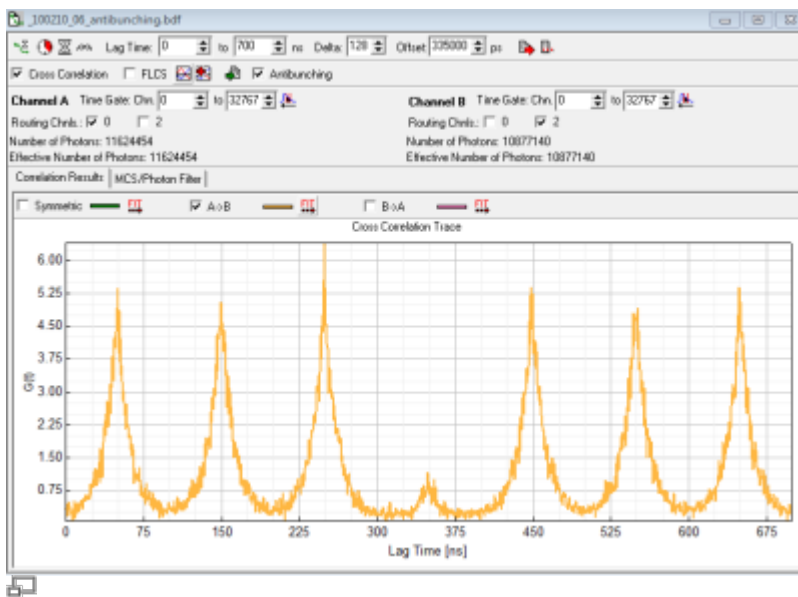

Figure 1: Correlation of Antibunching Measurement. Sample Diamond\\_NV\\_centers. Laser rep. rate 10 MHz for details
Figure 2: Correlation of Antibunching Measurement. Sample Diamond NV centers. Laser repetition rate 40 MHz. Note the peak near the expected dip at lag-time=0 due to SPAD afterglow. Compared with figure 1 the expected dip has not been shifted to the center of the x-axis and the emission bandpasses have not been placed directly in front of the detectors but in the emission filter wheel in front of the tube lens.
- depending on preference set laser repetition rate in order to allow full fluorescence to fully decay or highest possible rate or cw-excitation. The advantage of the highest possible repetition rate (or even cw) is better resolvability of the dip, disadvantage is that fluorescence does not decay completely during the pulses. (Compare figure 1 (10MHz) rep. rate and figure 2 (40 MHz) rep rate).
- However to move the expected “dip” to the center of the x-axis we here use the half of the x-axis range minus the difference in cable length (700ns/2 - 15 ns = 335000 ps). (see figure 1)
The symmetric correlation, which is shown automatically will only show a small “dip” as it is the average of **AxB** **AND** **BxA** in the case of figure 1 AxB will have its dip at 350 ns and BxA will have its dip at -350 ns. Therefore only one of both correlation (here AxB) should be displayed.